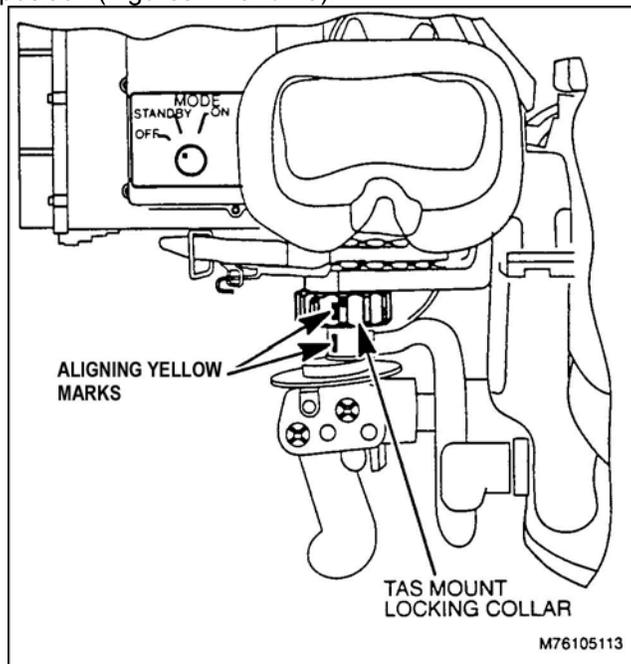

Figure 14. Aligning yellow marks.
h. Lock TAS into position (Figures 14 and 15).